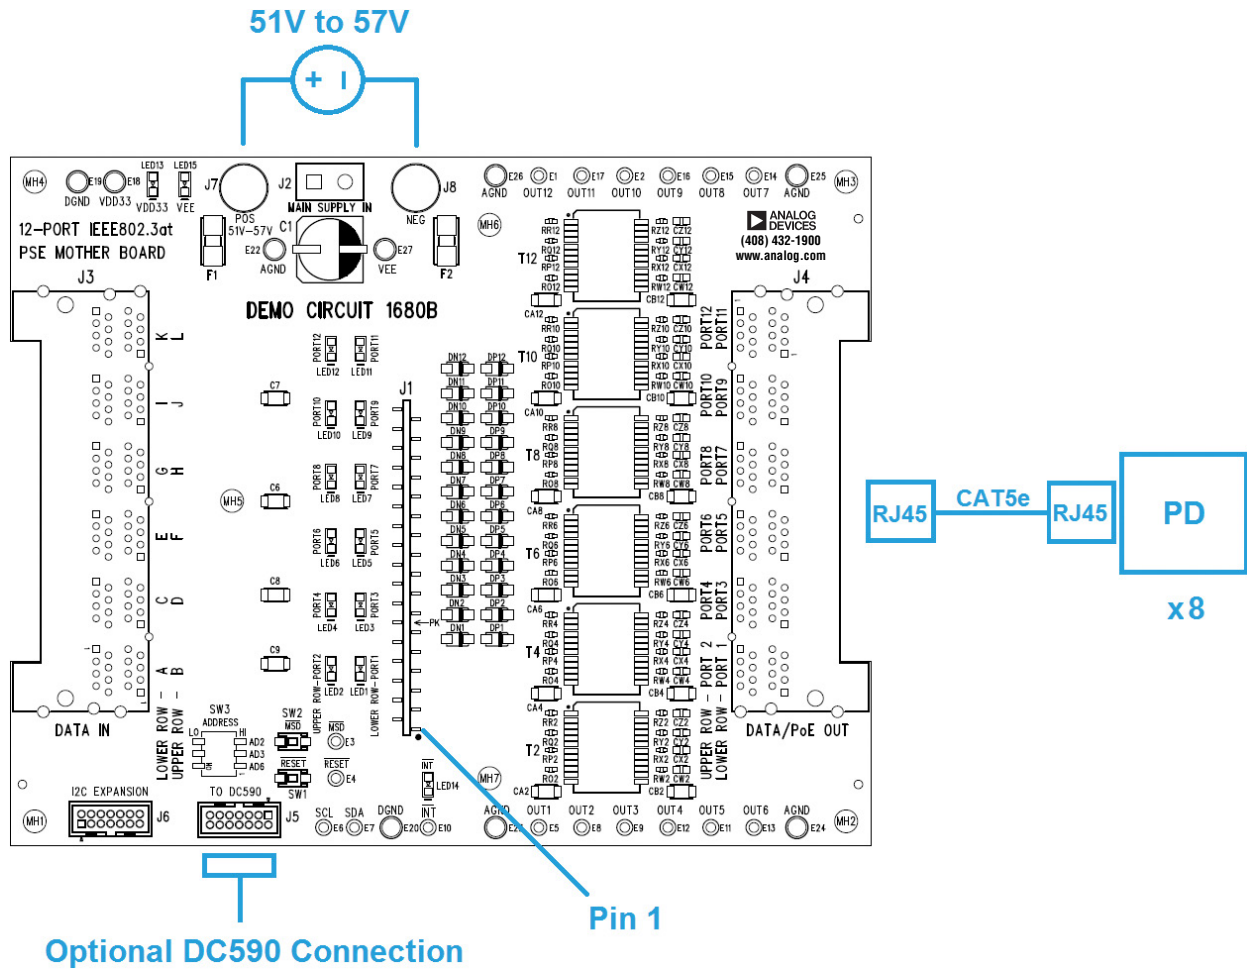
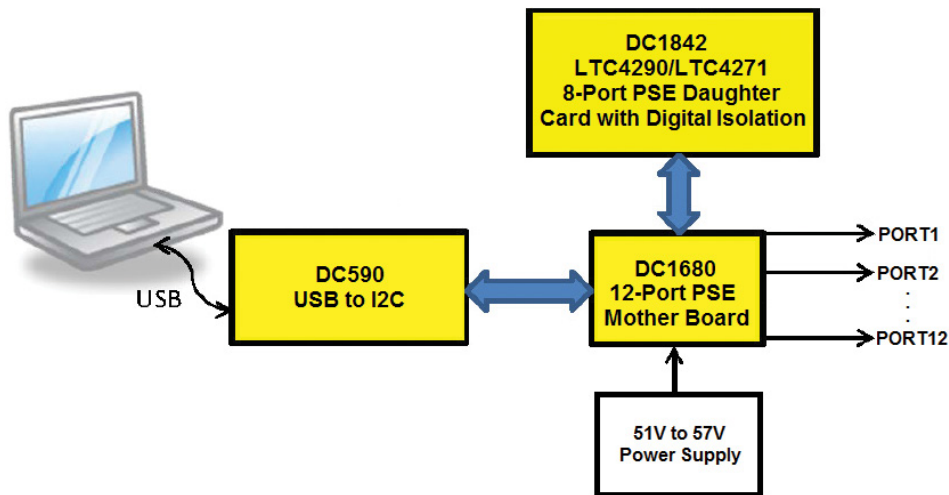

Figure 3. DC1843B Basic Setup
Figure 4. DC1843 System Setup with the DC590, DC1680, DC1842 and 51V to 57V Power Supply
4. On the DC1680B, connect a supply with the positive rail to POS and negative rail to NEG (Figure 3). Use a power supply capable of sourcing the maximum load expected ($8 \text{ ports} \times 850\text{mA} \geq 6.8\text{A}$). Ramp the supply up to 51V to 57V.
5. Connect up to 8 PDs to ports 1-8 at the DC1680B, J4 (Figure 3).
6. The DC590 is optionally connected to the DC1680B connector J5 with a 14-pin ribbon cable (Figure 3). A GUI for the LTC4290B/LTC4271 is brought up by QuikEval for I²C interfacing from a PC (Figure 4).
Connect a power supply for V_{EE} with the positive rail to POS and negative rail to NEG as shown in Figure 3 of the Quick Start Procedure. Set the voltage within the range in Table 1 depending on whether the application is a Type 1 or Type 2. Choose a power supply rating and set the current limit high enough to provide power for the maximum number of PDs connected and to meet each PD power requirements.
PDs are connected using an Ethernet cable to any of the 8 ports at the 2x6, RJ45 connector J4 on the DC1680B (Figure 3). Test points for port outputs OUT1 through OUT8 are provided.